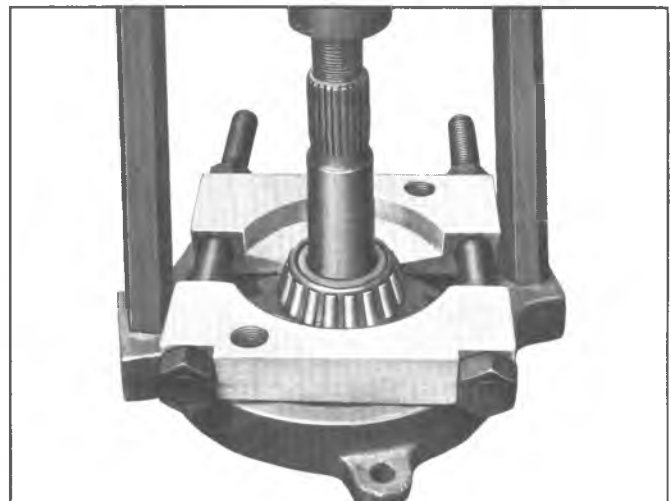

Fig. 6—Removing Inner Pinion Bearing Cone and Roller
5. Remove inner pinion cone and roller using Tool J-22912, installed as shown in Figure 6, and press pinion from bearing.